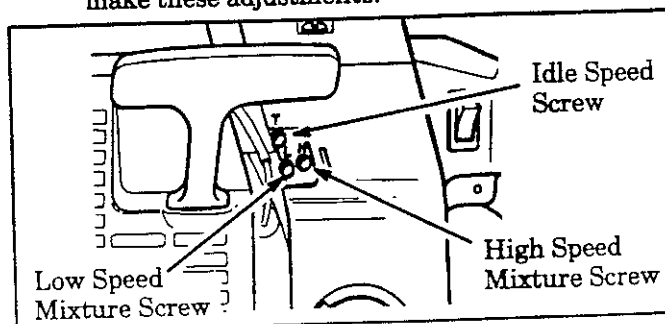

Figure 36
- Locate the three (3) carburetor adjusting screw openings Figure 36.
- Start the engine and allow engine to idle three (3) minutes to warm up. *The engine must be at operating temperature for proper adjustments to be made.*